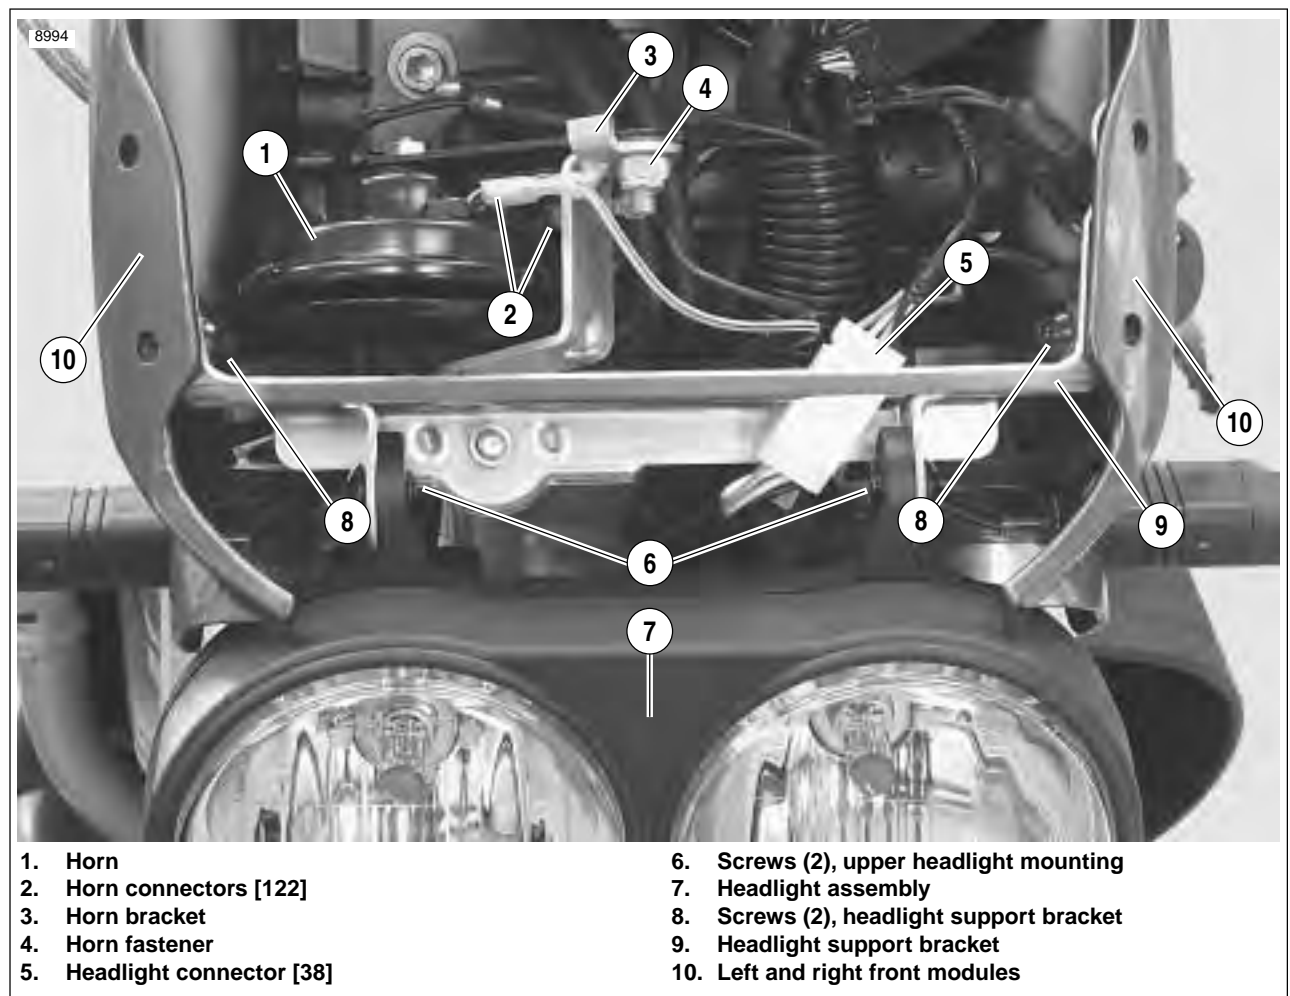

Figure 2-92. Headlight Assembly and Support Bracket
4. See Figure 2-92. Disconnect horn connectors [122] (2) and remove horn fastener (4) and horn (1).
5. See Figure 2-92. Disconnect headlight connector [38] (5).
- a. Remove both upper headlight assembly fasteners (6).
- c. Remove headlight assembly (7) from headlight support bracket (9).
8. Remove remaining two fasteners (8) securing headlight support bracket to left and right front modules (10).
9. Remove headlight support bracket (9) by sliding the left side of the bracket (on right side of vehicle) up, back and then out.